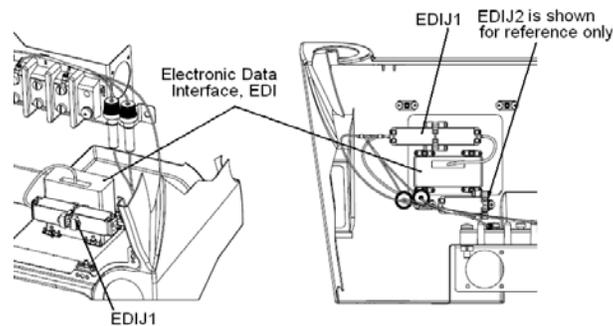

Figure 53-11 Showing the Location of the EDI Connector EDIJ1
14. Disconnect the Engine Data Interface, EDI, at the connector EDIJ1. See Figure 53-11 for the location of the EDI and its associated connector.